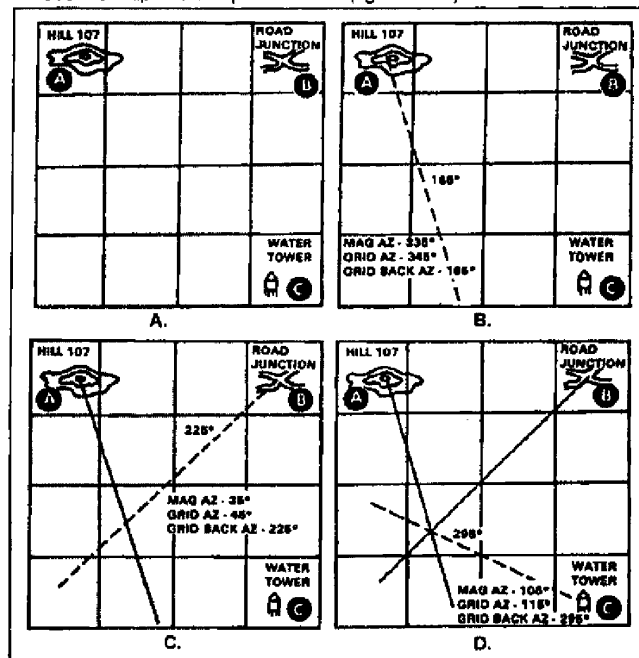

Figure C-37. Using the map and compass
1. Use the map and compass method (figure C-37).
- b. Locate two known positions on the ground and mark them on your map (A, figure C-37).
- c. Using your compass, measure the magnetic azimuth to one of the known locations; change it to a grid azimuth (B, figure C-37.)
- (1) If it is a westerly G-M angle, subtract the number of degrees in the G-M angle from your magnetic azimuth.
- (2) If it is an easterly G-M angle, add the number of degrees in the G-M angle to your magnetic azimuth.
- f. Repeat steps 1c through 1e for a second (C, figure C-37), and third (D, figure C-37) known position.